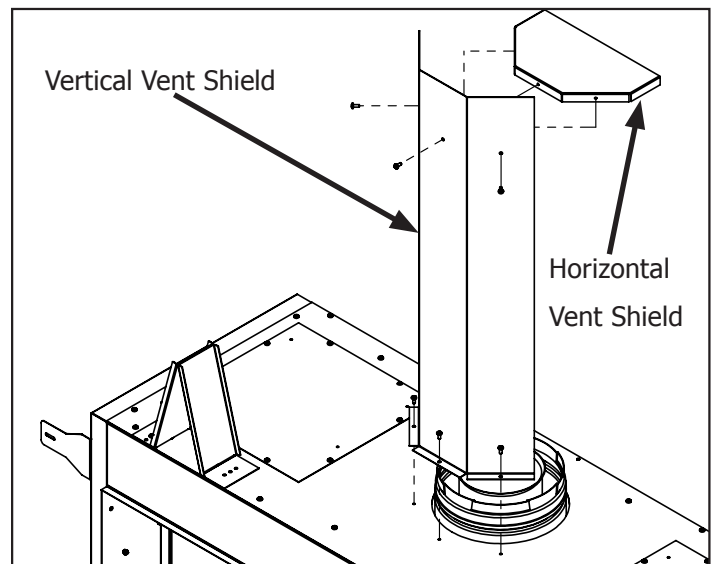

Figure 24. Vent Shielding Install
**IMPORTANT:** All installations must include the vertical vent shield. The horizontal vent shield is only installed if the fireplace is horizontally terminated with the minimum vertical rise of 12". If more than 12" of vertical rise is used in the vent configuration no horizontal shield is needed. See Figure 24 for shield install. Screws are pre-installed in cabinet and horizontal vent shield. Use a T-20 screwdriver or drill driver to remove screws then install shields.